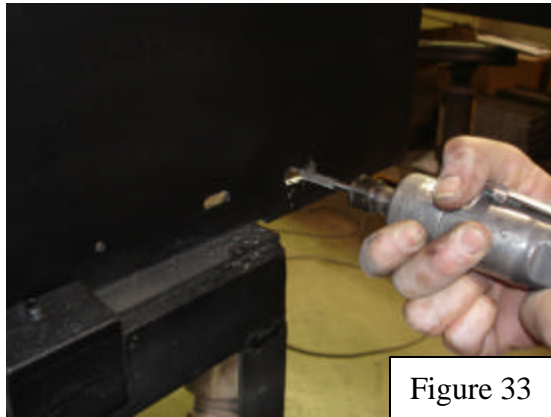

Figure 33
38. It is also necessary to drill and oblong a hole in the lower lock side for the alarm wiring to exit. (Figure 33)